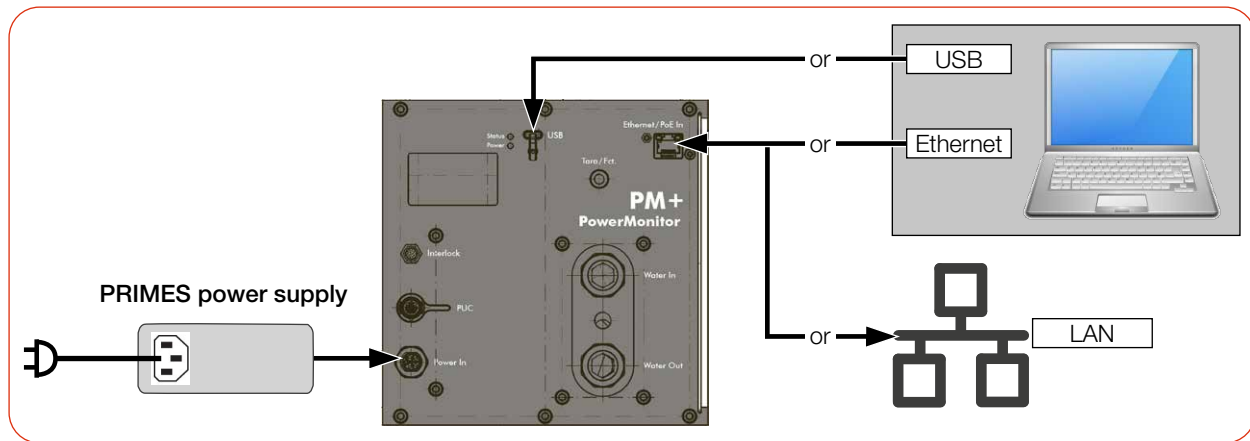

Fig. 7.4: Power supply via PRIMES power supply, data transfer via USB or Ethernet
► Connect the PRIMES power supply and the cable according to Fig. 7.4 on page 28 an.